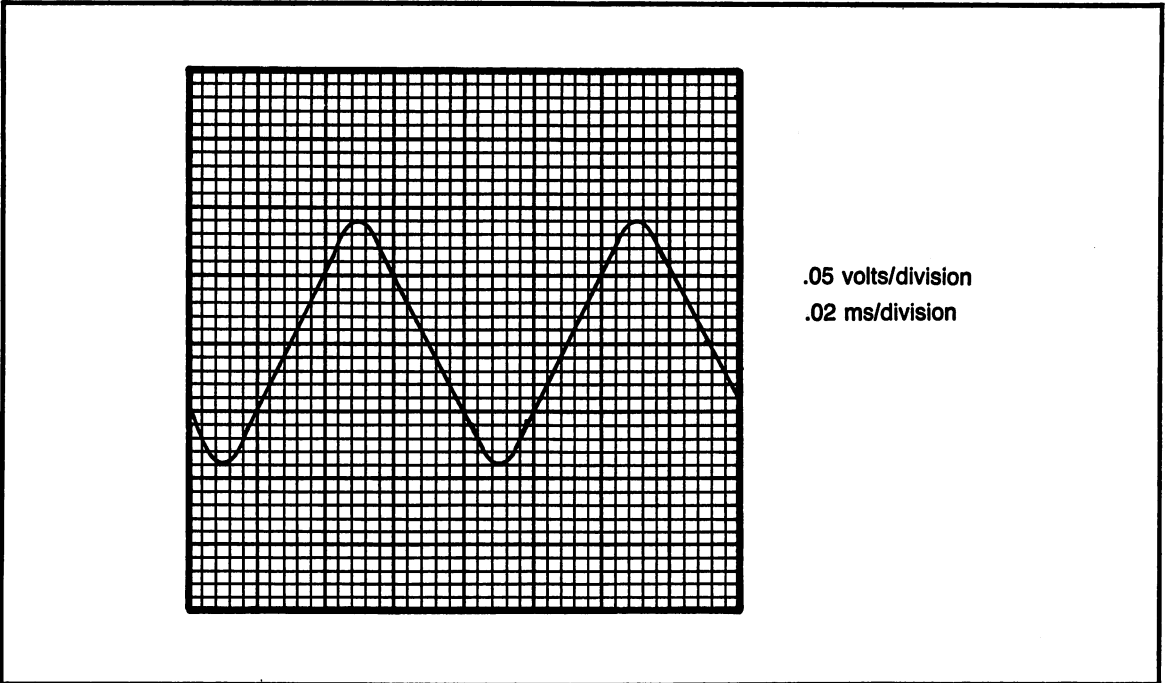

Fig. 11-24. Problem 40: .05 volts/division; .02 ms/division.
- (40) Figure 11-24; a) p-to-p voltage b) frequency